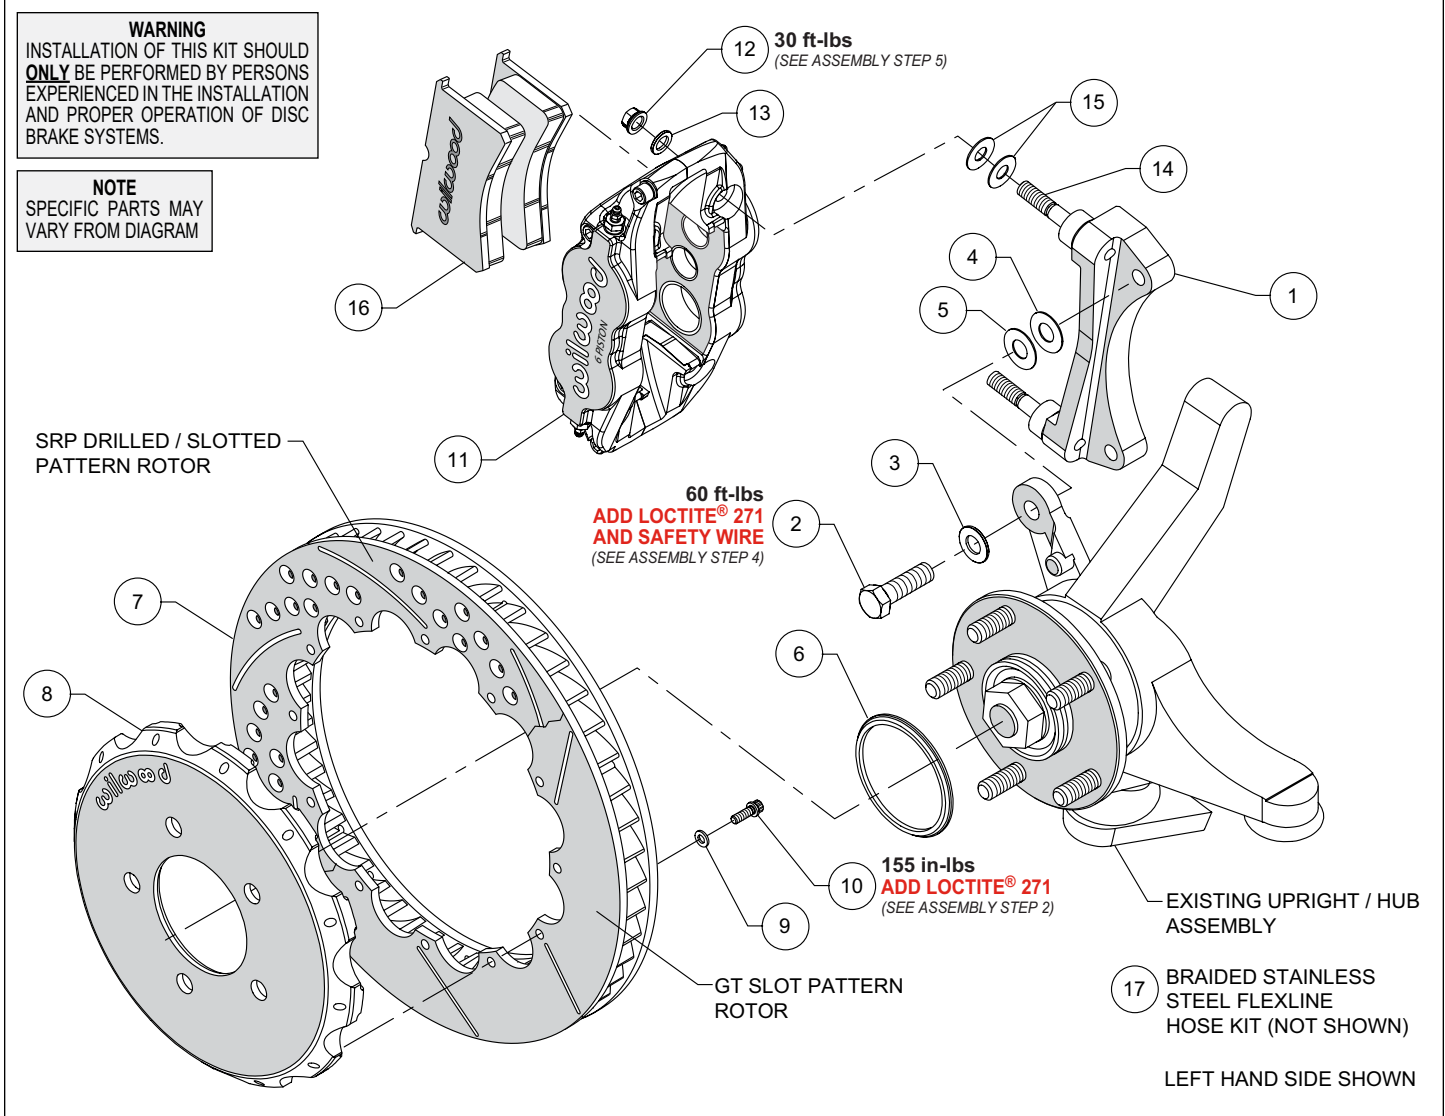
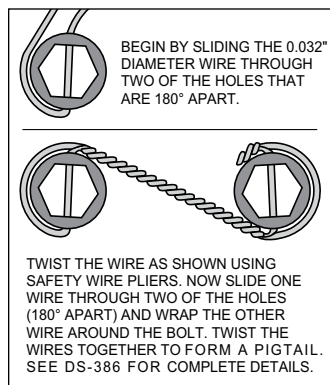
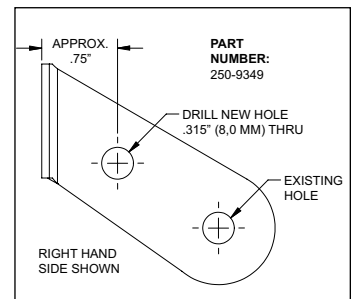

Figure 1. Typical Installation Configuration
Figure 3.
Figure 4.
**NOTE:** Numbers in parenthesis refer to the parts list and Figure 1 on the preceding pages.
**STEP 1** The caliper mount bracket (1) should initially be installed with clean, dry threads on the mounting bolts. Orient the bracket as shown in Figure 1 and Photo 1, and install using mounting bolts (2) and washers (3). Initially place one .033" thick shim (4), and one .015" thick shim (5) on each bolt between the bracket and upright, Figure 1. Temporarily tighten the mounting bolts.
**STEP 2** Orient the rotor (7) and the hat (8) as shown in Figure 1 and Photo 2. Attach rotor to hat using bolts (10) and washers (9). Apply red Loctite® 271 to the bolt threads and torque to value shown in Figure 1 using a criss-cross pattern. For an added measure of security, the bolts may be safety wired using standard 0.032 inch diameter stainless steel safety wire as shown in Figure 3. Please refer to Wilwood's data sheet DS-386 (available at [www.wilwood.com/Pdf/DataSheets/ds386.pdf](http://www.wilwood.com/Pdf/DataSheets/ds386.pdf)) for complete safety wire installation instructions.
**STEP 3** Slide the rotor registration adapter (6) onto the axle register on the axle hub with the smaller O.D. facing outward, Photo 3. Slide the hat/rotor assembly (8 and 7) onto the axle hub. **NOTE:** The hat must fit flush against the axle hub flange or excessive rotor run out may result. Install three lug nuts (finger tight) to keep the hat/rotor assembly in place while continuing with the installation.
**STEP 4** **NOTE:** This kit contains distinct right and left hand calipers that must be mounted in a specific direction, as described below. Initially place two .035" thick shims (15) on each stud as shown in Figure 1 and Photo 4. Mount the caliper (11) onto the bracket (1) using lock nuts (12) and washers (13), Figure 1 and Photo 5. Ensure that the caliper is mounted so that the largest pistons are at the rotor exit end of the caliper, in relation to the direction of rotor rotation. Temporarily tighten the lock nuts and view the rotor through the top opening of the caliper. The rotor should be centered in the caliper, Photo 6. If not, adjust by adding or subtracting shims (4 and/or 5) between the bracket and the upright. Always use the same amount of shims on each of the two mounting bolts. Once the caliper alignment is correct, remove the bracket mounting bolts (2) one at a time, apply red Loctite® 271 to the threads, and torque to value shown in Figure 1.
**STEP 5** Remove the caliper center bridge pad retainer bolt, nut, and tube from the caliper. Insert the brake pads (16) into the caliper, with the friction material facing the rotor, as shown in Photo 7. Check that the top of the brake pad is flush with the outside diameter of the rotor, Photo 8. If not, adjust by adding
or subtracting shims (15) between the caliper and the bracket. After the caliper pad height is set, reinstall the center bridge pad retainer tube, bolt, and lock nut. The lock nut should be snug without play in the bolt or tube. Be cautious not to over tighten. Torque the caliper lock nuts (12) to value shown in Figure 1.
**STEP 7** Attach supplied brake line to caliper. **NOTE:** OEM rubber brake hoses generally cannot be adapted to Wilwood calipers. Install Wilwood's stainless steel braided flexline hose kit (17), P/N 220-12016 included with this kit (not shown). The caliper inlet fitting is a 1/8-27 NPT. Use the included steel adapter fitting at the caliper (use PTFE tape on the pipe threads of adapter fitting for proper sealing to caliper). **Ensure hoses are routed to prevent contact with moving suspension, brake or wheel components.**
•**NOTE: CRZ only.** A new .315" hole needs to be drilled in the hose brackets (P/N 250-9349/50) as shown in Figure 4.